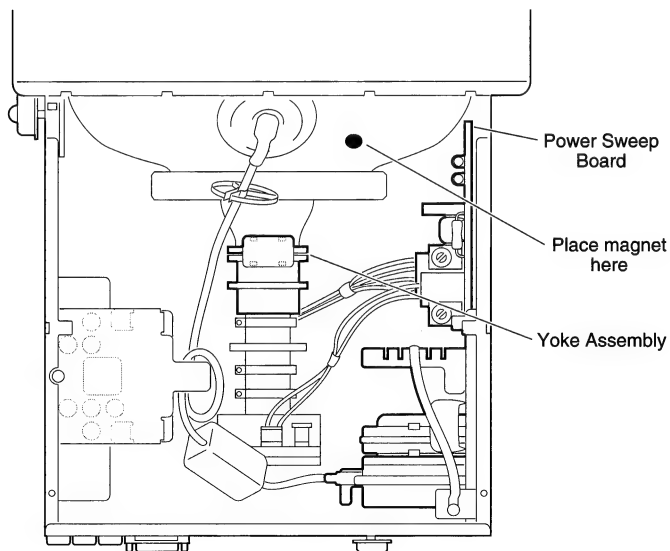

Figure 9 Placing the Magnet
FIGURE 9. The power sweep board contains high-voltage components. To prevent touching high-voltage areas on the power sweep board, cover the board with plastic packaging paper before performing the adjustment procedure. Make sure transistor Q711 is covered. The yoke assembly also carries high-voltage.
3. FIGURE 9. Cover the power sweep board with plastic packaging paper.
5. FIGURE 9. Observe the monitor screen. If the upper-left corner of the screen is distorted, place the weakest (green) magnet on the back of the CRT to the right of the anode cap. While looking at the screen display, rotate and move the magnet from side-to-side and up-and-down until you get the least distortion.